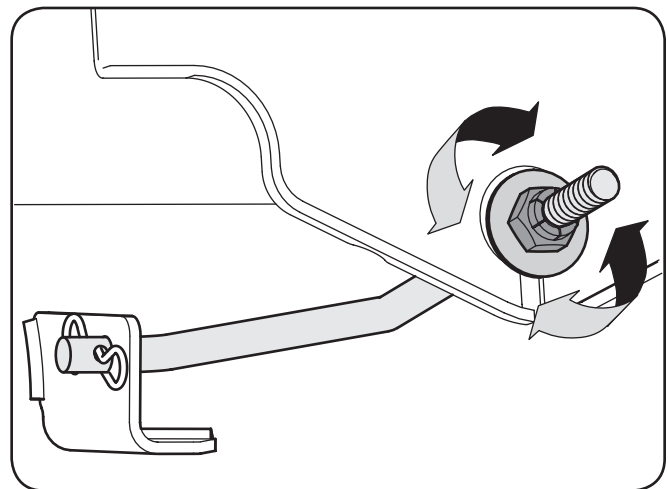

Figure 6-5
3. Locate the nut on the front side of the stabilizer bracket. See Fig. 6-5